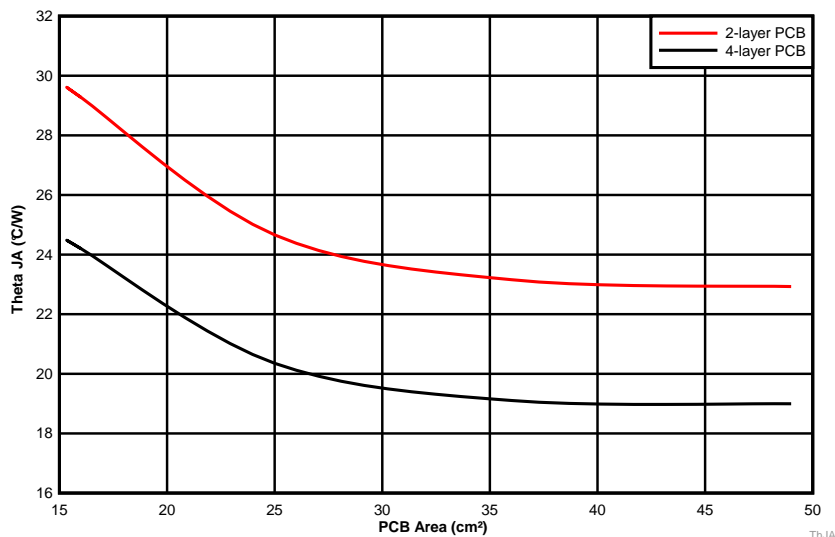

Figure 42. θ_{JA} vs PCB Area
The amount of PCB copper effects the thermal performance of the device. Figure 42 shows the effects of copper area on the junction-to-ambient thermal resistance ($R_{\theta JA}$) of the LMZM33603. The junction-to-ambient thermal resistance is plotted for a 2-layer PCB and a 4-layer PCB with PCB area from 16 cm² to 49 cm².
3. Reference Figure 42 to determine the minimum required PCB area for the application conditions.